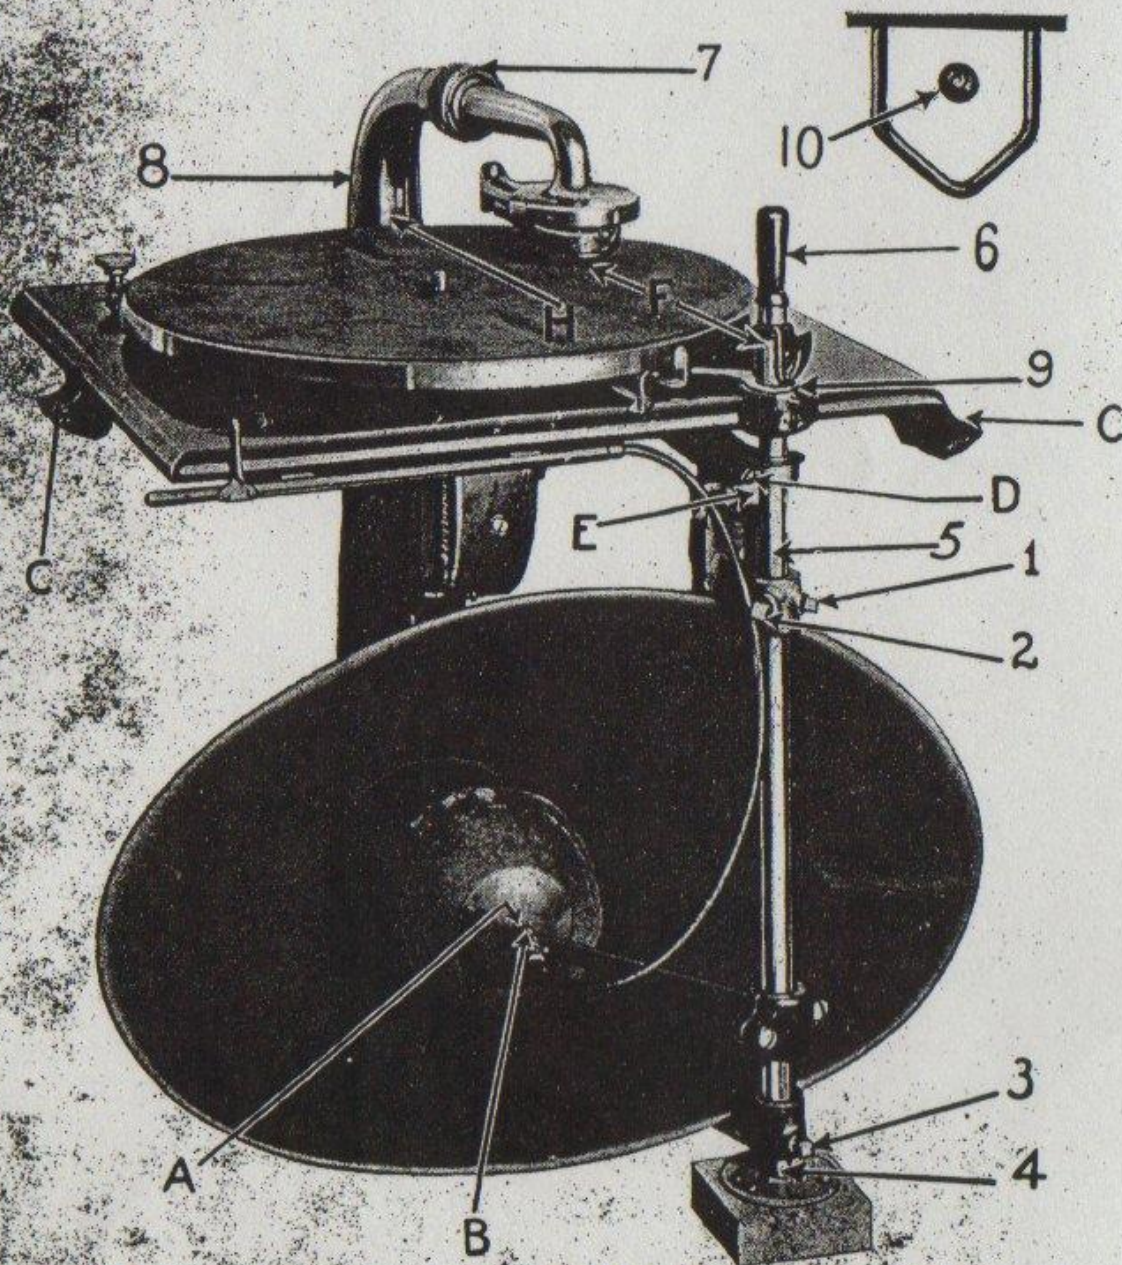

Figure 1—General Adjustment
(2) Replace lift shaft and handle (5) and (6), Figure (1). (If washer was found beneath finger (9), replace that also.) Pass the lift shaft (5) through friction spring (D) and into horn supporting shaft, but don't tighten up yet. Insert winding handle. Insert the three bolts at (C) which hold down the motor plate. Replace the washers and nuts from beneath and tighten up the three bolts.
(3) Push shaft (5) down as far as it will go, having handle (6) standing upright; for proper adjustment, be sure to have a piece of thick paper or business card placed underneath finger (9). Tighten first the screw (1) into slot of shaft, then tighten screw (2). Take out the card from beneath the finger (9). Raise the friction spring (D) on shaft (5), until the end of the spring is about 1/32 of an inch from touching the underside of the motor plate, having the spring pointing in the same direction as the finger (9) above it.
(4) Replace mute ball and cable, also turntable and reproducer. Observe whether the limit pin on the front of the reproducer floating weight rides in position in the loop, when reproducer is lowered upon a RE-CREATION as indicated in (10), Fig. 1. If it is found necessary to adjust the reproducer, up or down to gain the right position of the limit pin, directions will be found on page 11, "To set the height of reproducer."
Refer to Figure (1). Place a RECREATION of standard thickness (that is, one that is 0.235" thick) on turntable. Lower reproducer into playing position and note position of weight limit pin. This pin should be clear of the under side of reproducer cup by a distance equal to the diameter of the pin. (Note 10 in figure 1.) With pin at this distance below cup casting, the diamond arm will be nearly parallel with RE-CREATION. If this arm is badly out of parallel with RE-CREATION it shows that diaphragm has become warped, or has some other defect, and the reproducer should be sent to your jobber for replacement.